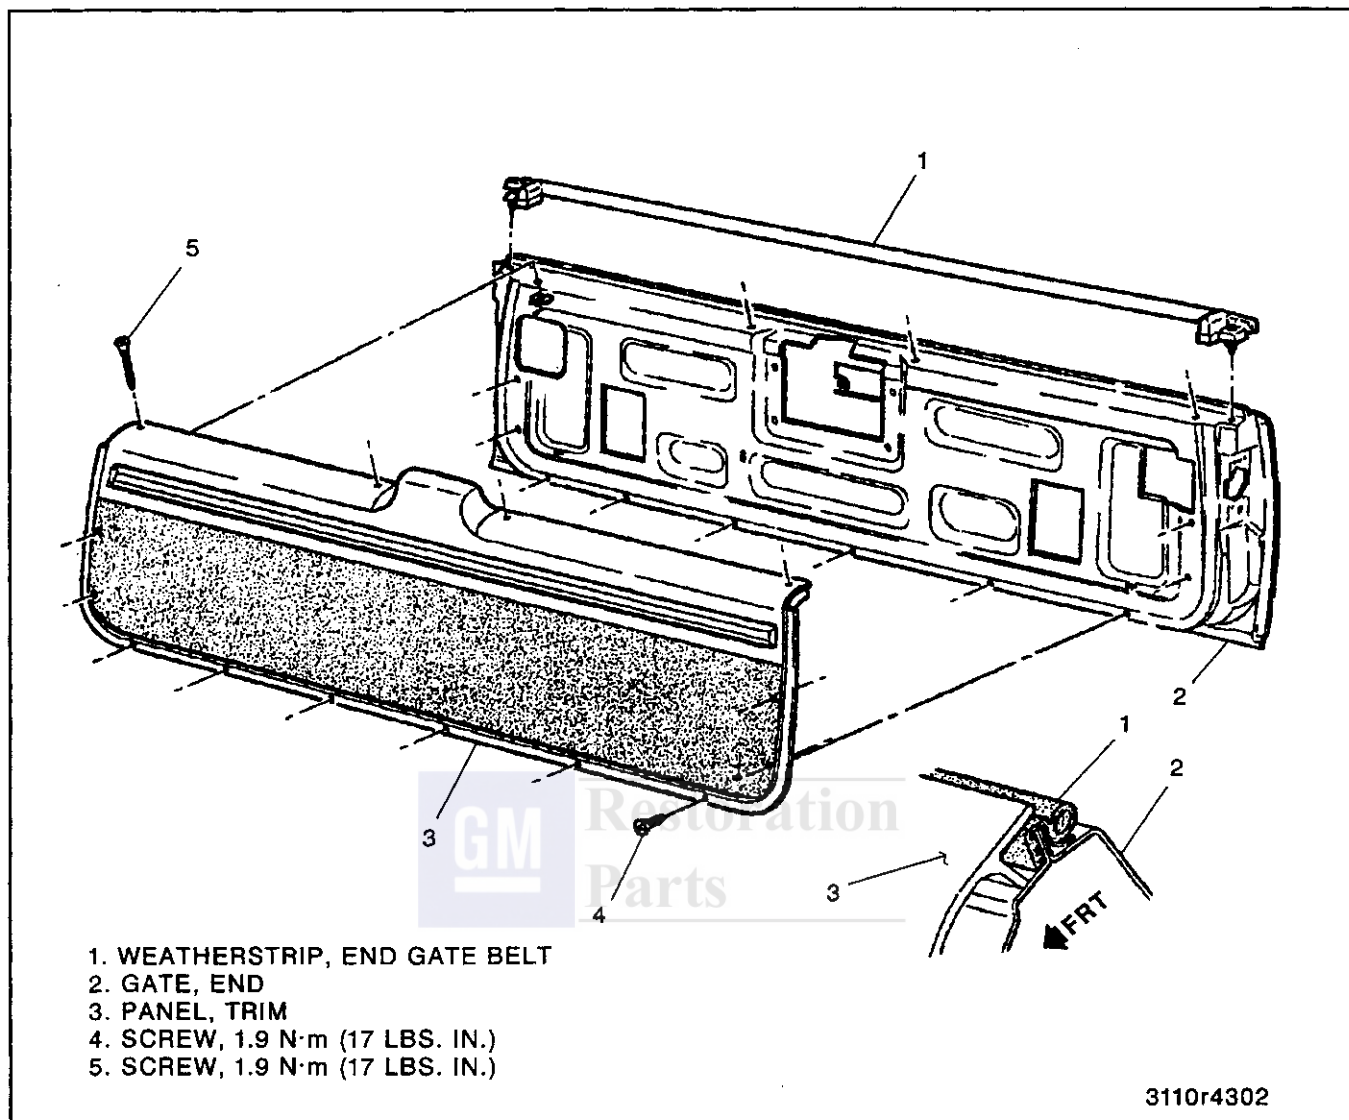

Figure 6—Trim Panel and Belt Weatherstrip
**Remove or Disconnect (Figure 6)**
**Install or Connect (Figure 6)**
### Adjust (Figure 6)
### Remove or Disconnect (Figure 6)
### Install or Connect (Figure 6)